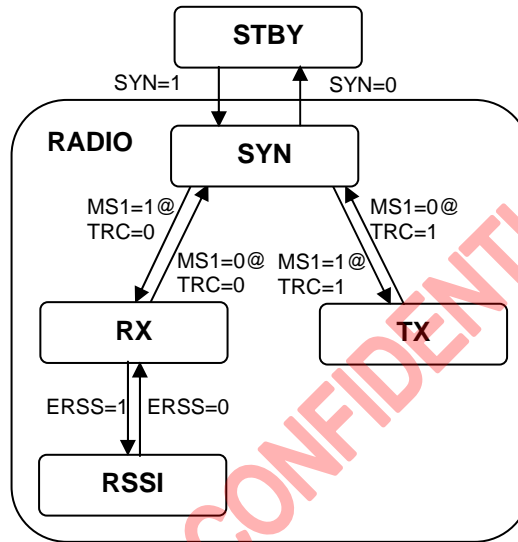

Figure 3: RADIO State Sub-state Diagram
The RADIO (Radio) state has four sub-states: SYN (Synthesizer), RX (Receiver), TX (Transmitter), and RSSI (RSSI measurement). The entrance and exit sub-state of the RADIO state is the SYN sub-state. The SYN sub-state can be entered only from the STBY state when the SYN bit (**Mode control register** bit 2) is set to “1” and the input pin MS1 is “0”. At the same time, the ECAL (**Calibration control register** (II) bit 1) bit must be reset to “0”, that is, the calibration process is done or there is no calibration needed. If the ECAL is set to “1”, the state transition to the RADIO state by setting the SYN bit will take effect until the ECAL bit reset manually or automatically. The sub-state diagram is shown in Figure 3.